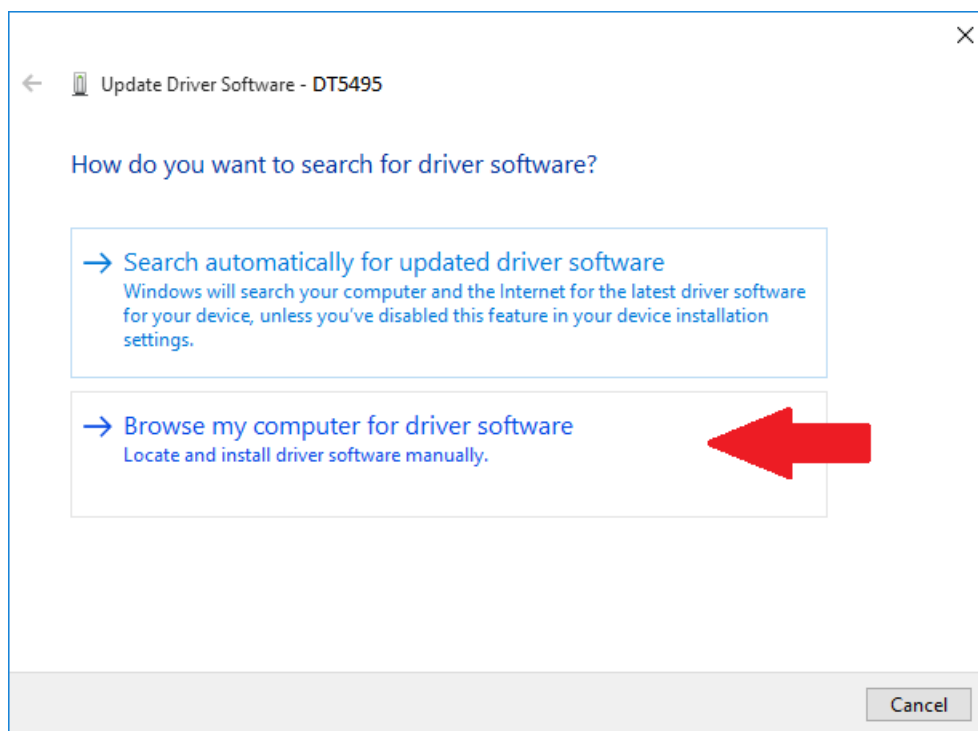

Fig. 10.3: USB driver manual installation: Step2
5.Select *Browse my computer for driver software* as in **Fig. 10.3**.